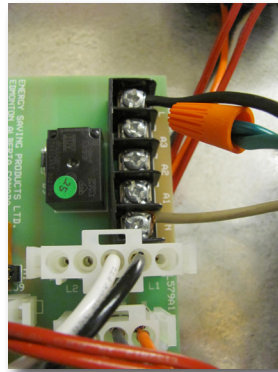

Fig. 13a
13. Reconnect power & thermostat connections to the new circuit board. Hook up ground wire with the provided wire nut. Refer to wiring diagram on last page. (Figs. 13a-13c)